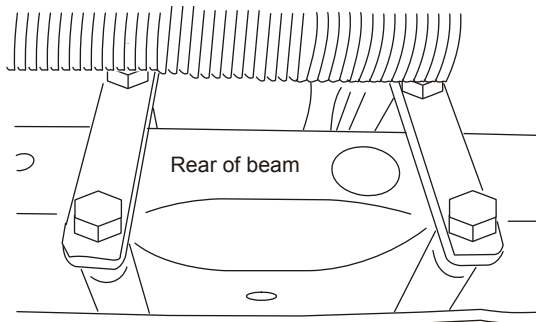

Figure 4.1
- Thread the four bracket bolts into the mounting bracket. Pry the lower fan shroud up to assist in starting the bolts. Adjust the bracket so the air bag sensor on the front of the beam is in the middle of the mounting bracket (Figure 4.1).